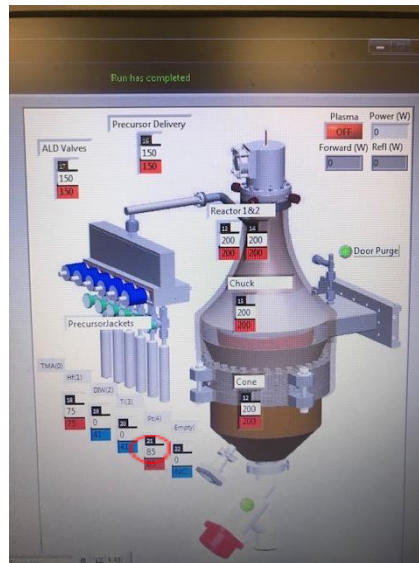

Figure 4: White box indicates temperature setpoint
9.4.3.1. If the temperature needs to be adjusted, select the number white box associated with the precursor. Type in the correct temperature and hit enter. **Figure 4.**
- 9.6.4.1. Pulse: in the # column, this value must match the position of the precursor inside the Fiji. Precursors move regularly, so make sure to check this value. Precursor position can be seen in **Figure 4.**